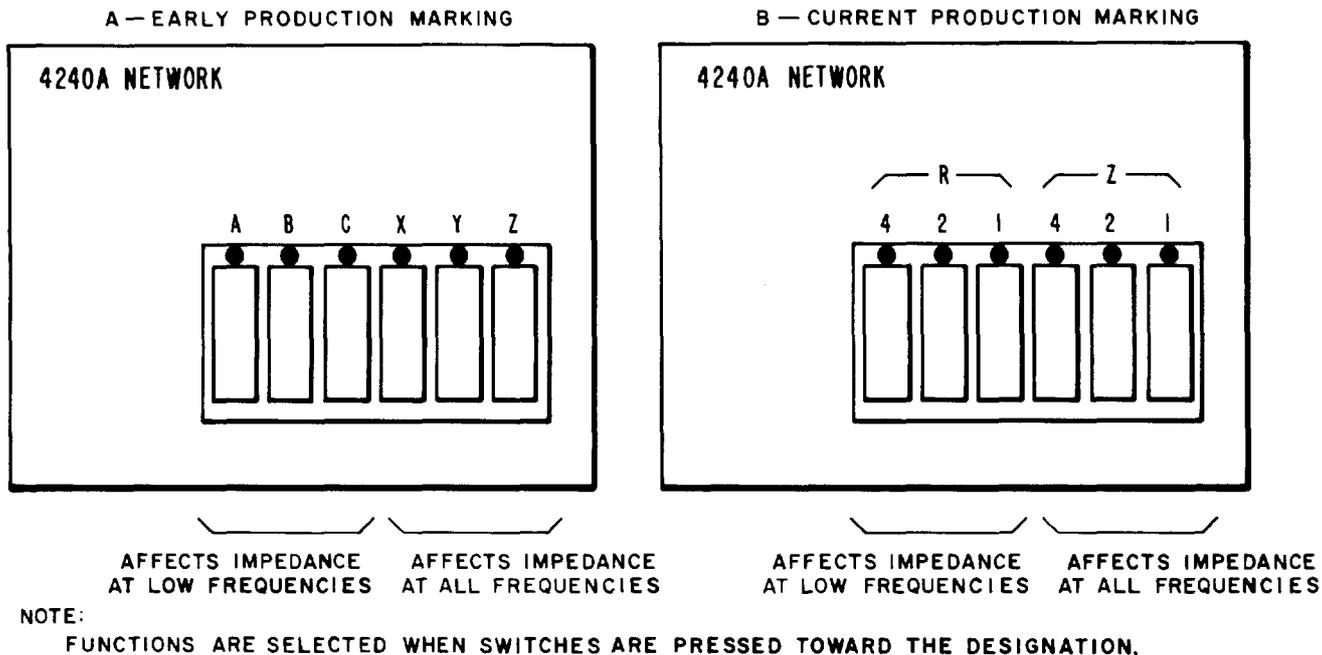

Fig. 4—Control Switches of the J99343PC PBN
2.10 The controls for the J99343PC PBN are illustrated in Fig. 4. This figure shows the two labeling schemes for this PBN. Controls on the early production units were labeled A B C and X Y Z. This has been changed to R (4,2,1) and Z (4,2,1), respectively. See Section 332-912-212 for prescription settings of the PBN (loaded).